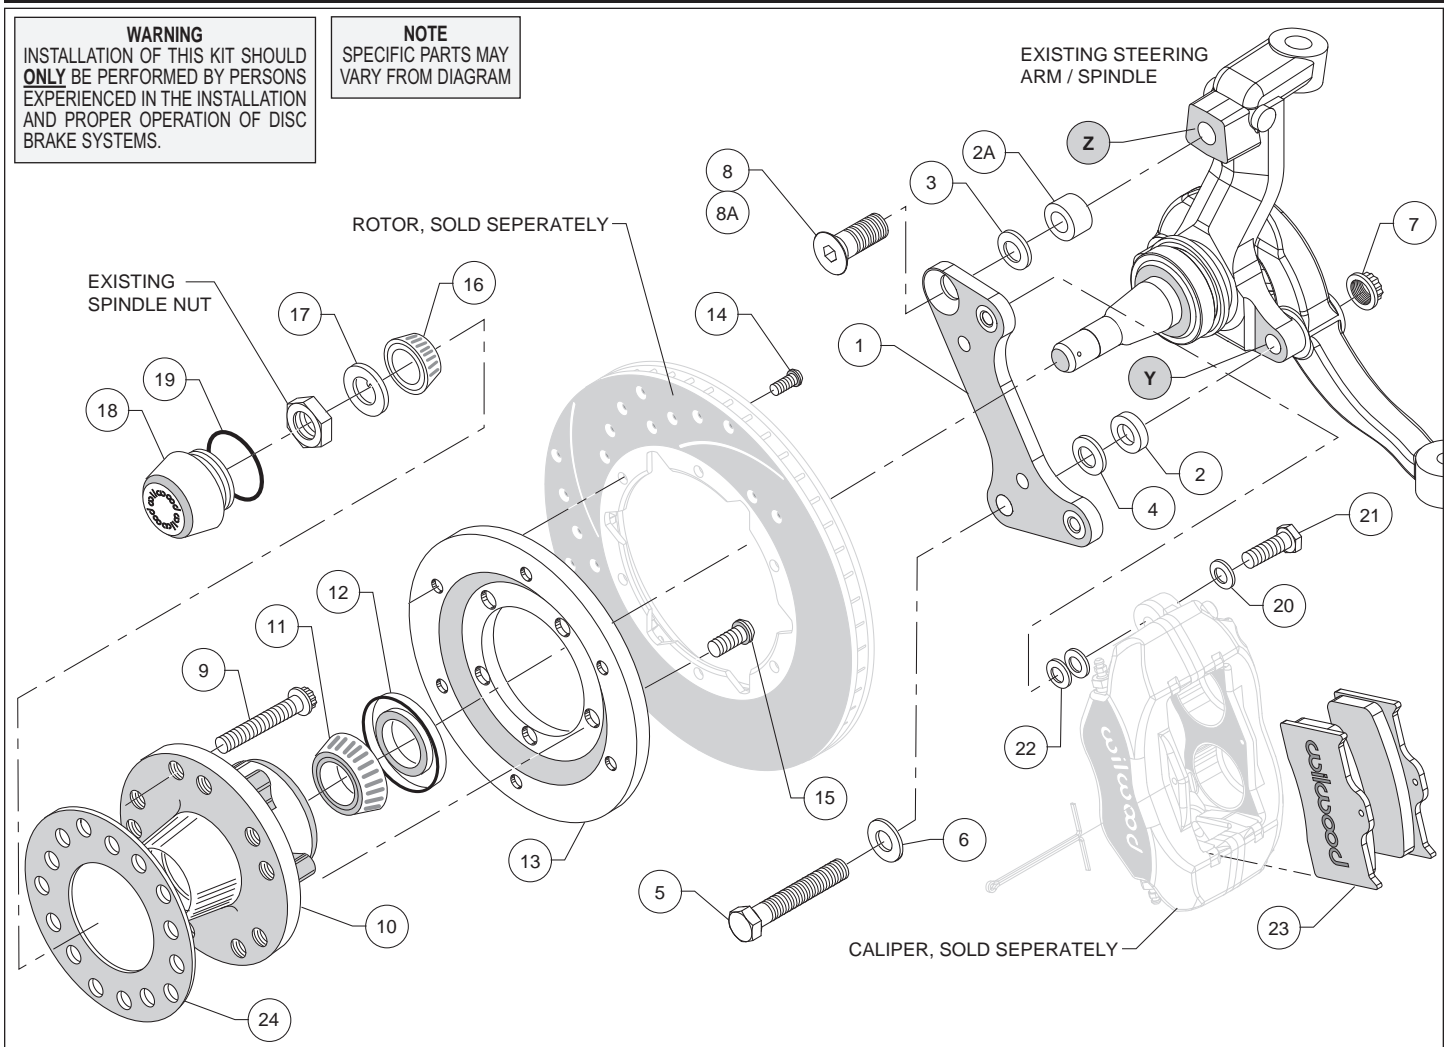
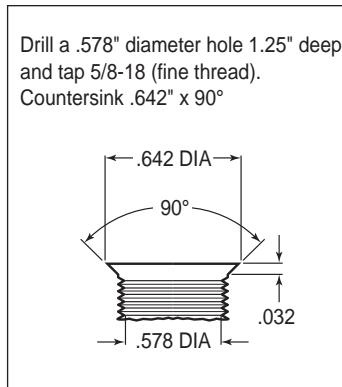

Figure 1. Typical Installation Configuration
Figure 3. Drill and Tap Detail
Assembly Instructions (numbers in parenthesis refer to the parts list and Figure 1 on the preceding page): **CAUTION:** All mounting bolts must fully engage clinch nuts. Be sure to check that all bolts are either flush or protruding through flanged side of clinch nut after shimming, Figure 4.
- NOTE:** 1964-66 spindles may require the following modifications (reference Figure 1 and Figure 3): Top anchor pin hole (Z) must be drilled and tapped to the dimensions as outlined in Figure 3. Bottom rear steering arm bolt hole (Y) in the spindle and steering arm must be enlarged to .50" by drilling.
- Install wheel studs (9) into the hub (10), Photo 1. Torque to 77 ft-lb. **NOTE:** There are two five lug patterns in the hub (5 x 4.50 and 5 x 4.75). Ensure the correct hub stud pattern is being used to fit the wheel application.
- Pack the large inner bearing cone (11) with high temperature disc brake bearing grease (available from your local auto parts store) and install into the backside of the hub (10), Photo 2.
- Install the grease seal (12) by pressing into the backside of the hub (10), flush with the end of the hub, Photo 2.
- Orient the rotor (sold separately) and the rotor adapter (13) as shown in Figure 1 and Photo 3. Attach the rotor to the adapter using bolts (14). Using an alternating sequence, apply red *Loctite*® 271 to the threads, and torque to 25 ft-lb.
- Attach caliper mounting bracket (1) to spindle face using lower bolt (5), washer (6), and a .090" thick spacer (2) positioned between the bracket and the spindle face, as shown in Figure 1 and Photo 5. Secure bolt on the backside of the steering arm with lock nut (7). Finger tighten. Install upper bolt (8) (for drum spindle) or bolt (8A) with spacer (2A) between bracket and spindle (for disc brake spindle), Photo 6. Ensure that the flanged heads of the clinch nuts in the bracket are facing outboard, Photo 6. Temporarily tighten the mounting bolts and install the new hub/rotor assembly. Check that the bracket is aligned parallel to the rotor, Photo 7. If not, adjust by adding shim washers (3 and/or 4) between spacers (2 and/or 2A) and the bracket, Figure 1. Once the bracket alignment is correct, remove the upper bolt (8 or 8A), apply red *Loctite*® 271 to bolt threads, and torque to 120 ft-lb. Torque lock nut (7) to 65 ft-lb.
- NOTE:** *Please reference the caution statement at the beginning of the assembly instructions.* Mount the caliper (sold separately) onto the caliper mounting bracket (1) using bolts (21) and washers (20), as shown in Figure 1. Initially place two .035" thick shims (22) on each bolt between the caliper and the bracket, Photo 9. Temporarily tighten the mounting bolts and view the rotor (sold separately) through the top opening of the caliper. The rotor should be centered in the caliper, Photo 10. If not, adjust by adding or subtracting shims between the bracket and the caliper. Always use the same amount of shims on each of the two mounting bolts. **NOTE:** *The end of each bolt must be flush with or slightly protruding from the head of the clinch nut, as shown in Figure 4.* If necessary place spare shims between washer (20) and caliper mounting ear to achieve the proper clinch nut engagement, as shown in Figure 4. Once the caliper alignment and clinch nut engagement are correct, remove the bolts one at a time, apply red *Loctite*® 271 to bolt threads, and torque to 40 ft-lb.